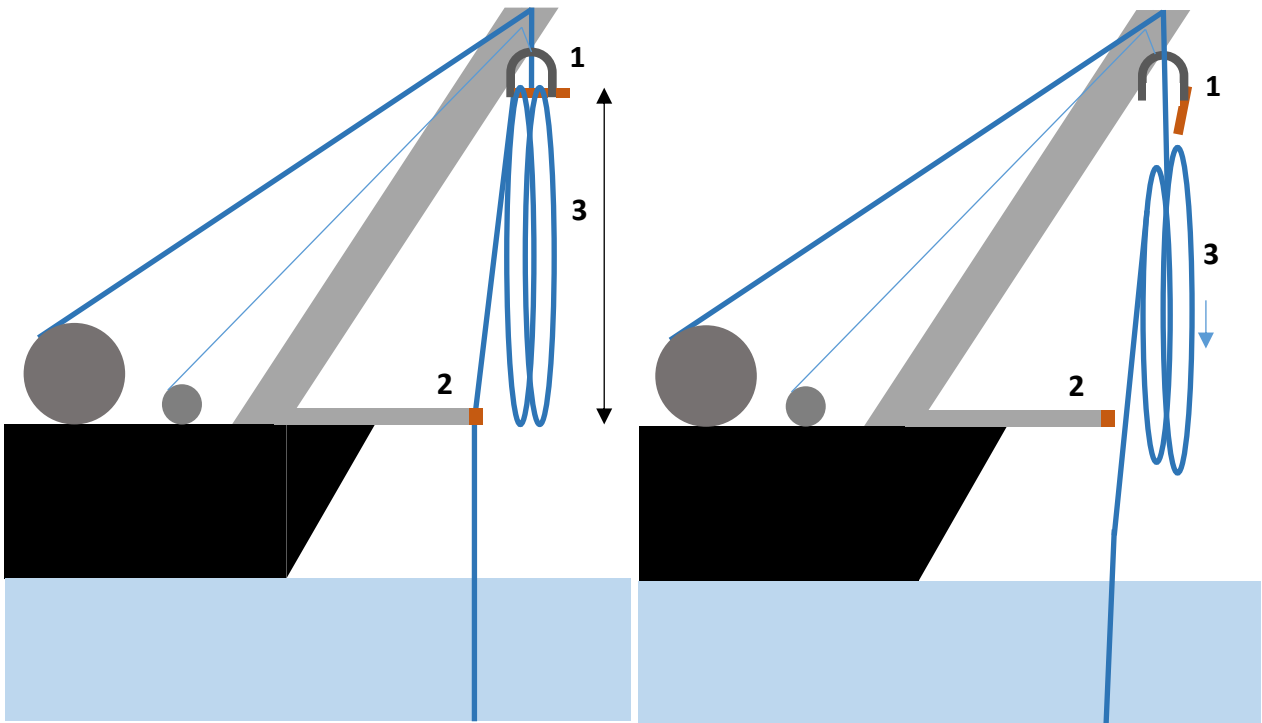

Figure 1: Release method
3. We then clamp the rope to keep the GraviProbe into position (see 2 in Figure 1).
5. The loops (see 3 in Figure 1) are hung onto a U-clamp (see 1 in Figure 1) and raised up on the A-frame using a small winch (this could be a manual winch).